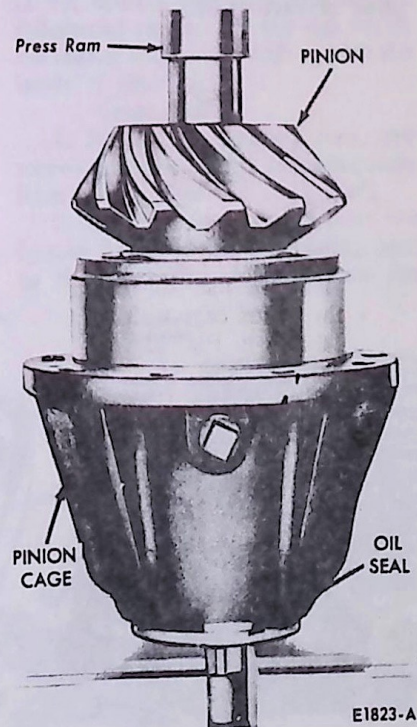

FIG. 25 Installing Pinion Oil Seal
8. When the preload is correct, install the oil seal in the pinion cage (Fig. 25).